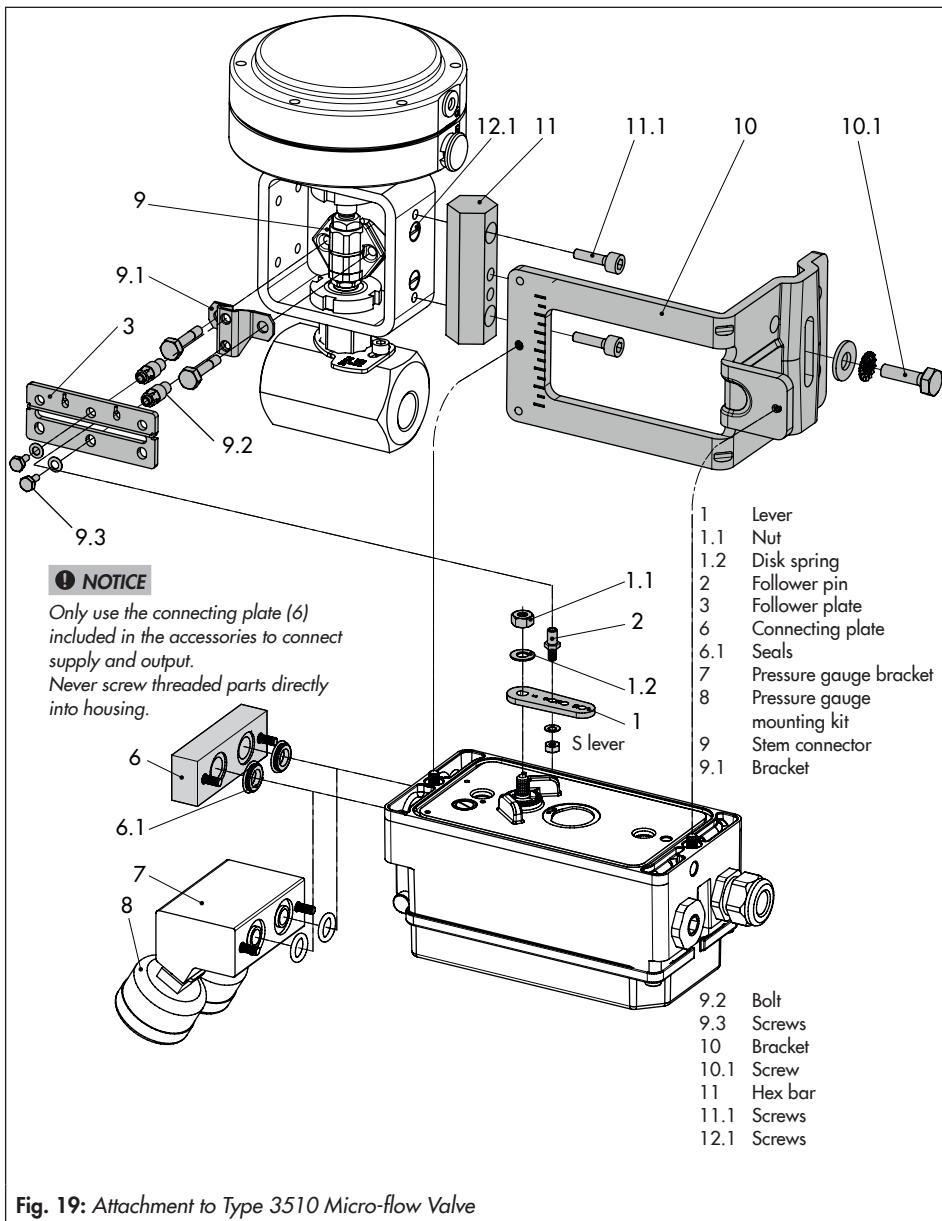

Fig. 19: Attachment to Type 3510 Micro-flow Valve
- Refer to Fig. 19
2. Screw the two bolts (9.2) to the bracket (9.1) of the stem connector (9), place the follower plate (3) on top and use the screws (9.3) for fastening.
4. Fasten the hex bar (11) onto the outer side of yoke by screwing the M8 screws (11.1) directly into the holes on the yoke.
5. Fasten the bracket (10) to the hex bar using the hex screw (10.1), washer and tooth lock washer.
6. Mount connecting plate (6) or pressure gauge bracket (7) with pressure gauges on the positioner, making sure the two seals are seated properly.
7. Unscrew the standard M lever (1) including follower pin (2) from the positioner shaft.